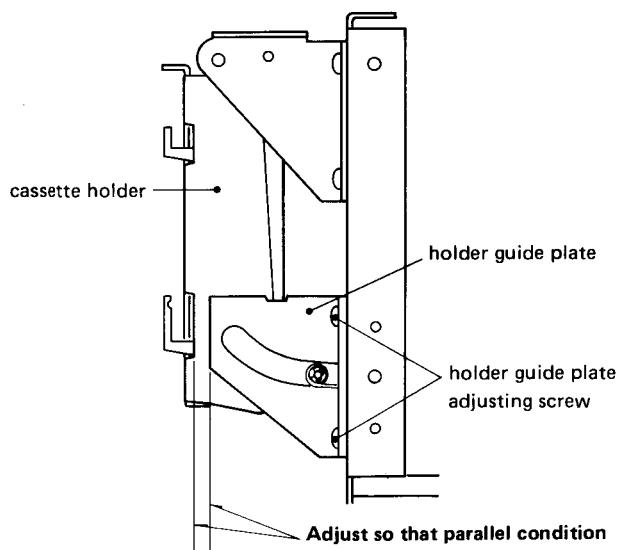

Fig. 4-1
- Adjust the holder guide plate position so that when the cassette holder in which the cassette tape is loaded is closed, the parallel condition shown in Fig. 4-1 is obtained.